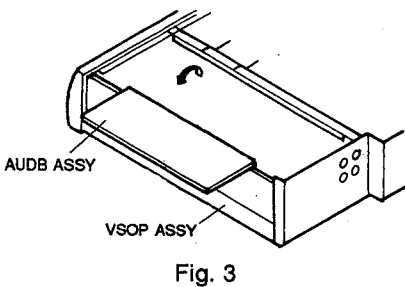

Fig. 3
6. Put AUDB ASSY in open position. (Fig. 3)